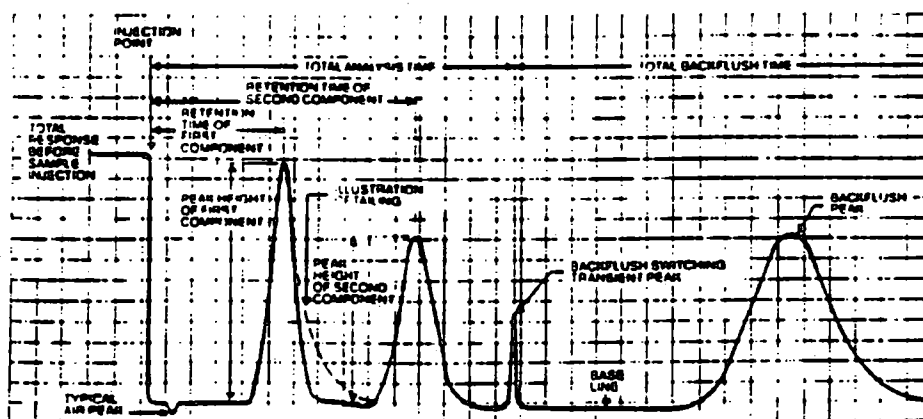

FIGURE 9
The chromatogram is a chart recorder trace of the organic vapor concentration from the Organic Vapor Analyser (OVA) as a function of time. A typical chromatogram is illustrated in Figure 9 and is a series of triangular shaped peaks originating from and returning to a fixed baseline. Qualitative interpretation of a chromatogram involves identifying a peak by analyzing the time it took for the peak to appear after initial injection (referred to as retention time (RT)) and comparing this RT to reference data. Quantitative interpretation involves analyzing the area under the peak and relating this area to calibration data of peak area versus concentration for that specific compound under the conditions present during the GC analysis.
The retention time (RT) is defined as that period of time from injection until the time of maximum detector response for each substance. Retention time is measured from the time of sample injection to the time the apex of the triangle shaped curve is obtained on the strip chart recorder. (See Figure 9). The strip chart recorder operates on a clock mechanism such that the distance along the baseline is proportional to time. While retention times are characteristic for each compound, it is possible that two materials could have the same retention times. Thus, if there is any question as to the identity of the vapor, it may be necessary to verify identification by retention times on different columns.
In general, the more triangularly symmetrical the peak, the better the peak height analysis capability. However, many GC peaks have "tailing" as illustrated in Figure 9. Peak height calibration is an acceptable method for quantitative analysis as long as the area under the tail is small compared with the total peak area. If severe tailing occurs, empirical calibration data generated through tests may be required to plot the peak height versus the concentration curve.